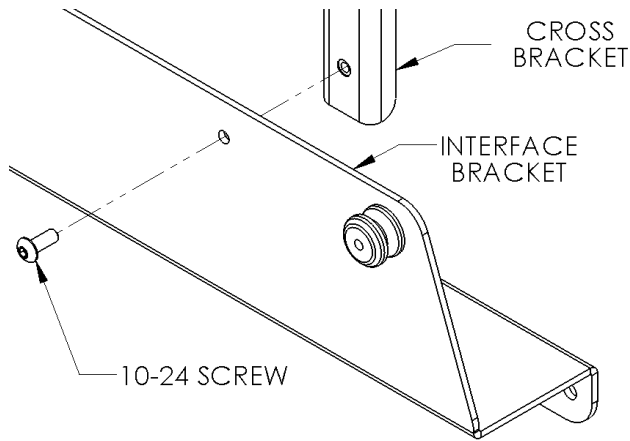
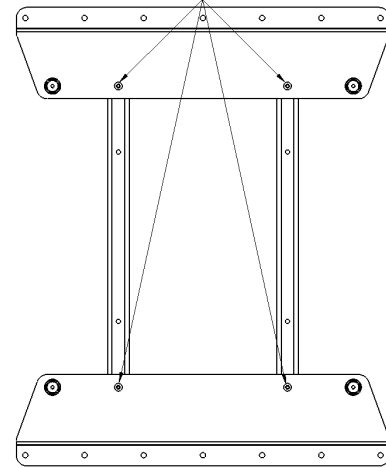

Figure 4
Figure 5
2. **Side Bracket Assembly:** Attach cross brackets to interface brackets using the 10-24 button head cap screws (see Figure 4 & Figure 5).